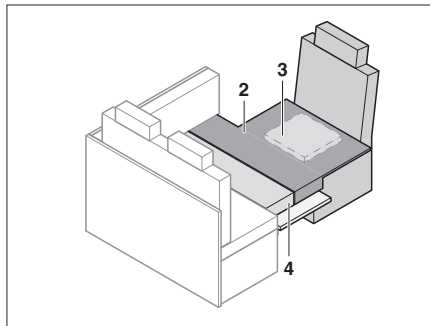

Fig. 182 After conversion
- Lay on the additional cushion as shown in Fig. 182.